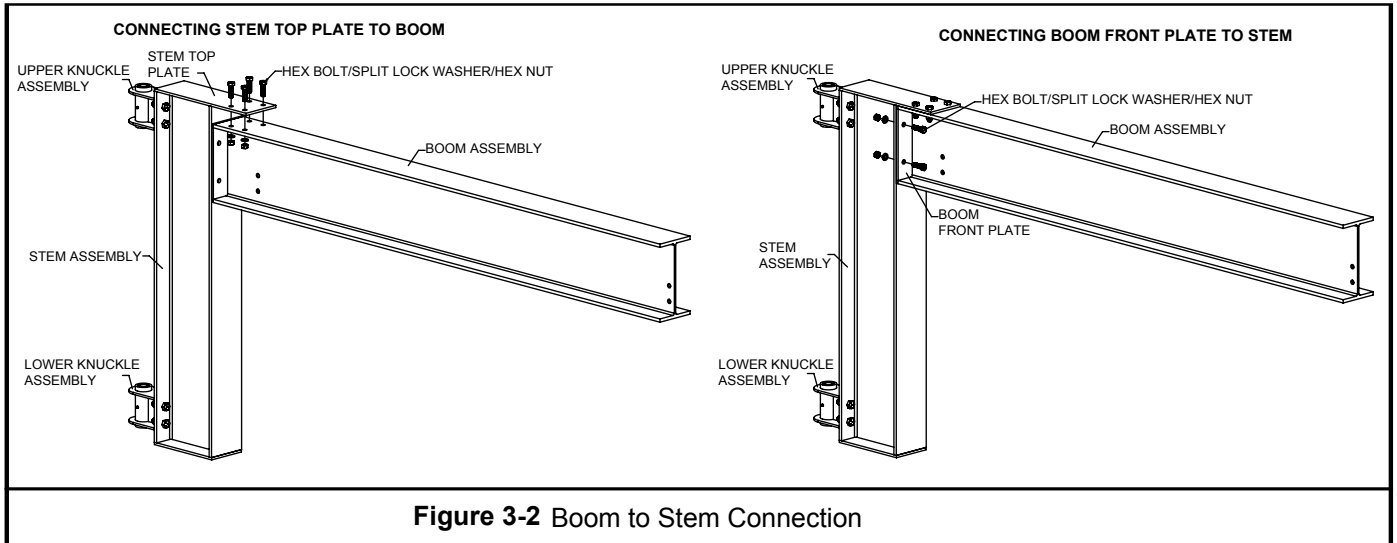

Figure 3-2 Boom to Stem Connection
3.2.7 Bolt upper and lower knuckle assemblies to stem beam. Refer to Jib Crane Drawing for hardware sizes and locations. For Torque Values, see **Table 3-1**. Connect stem top plate to boom and connect boom front plate to stem - See **Figure 3-2**. If stem and boom are welded together, skip to Step 3.2.8.